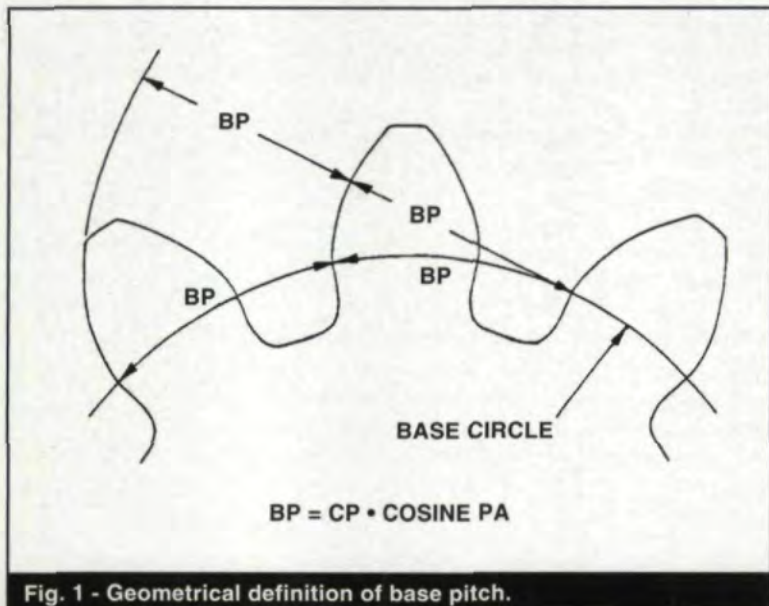

Fig. 1 - Geometrical definition of base pitch.
There is one dimension common to both members of a pair of properly mating spur gears - the base pitch (BP). This base pitch is equal to the circular pitch of the gear on the base circle (see Fig. 1). For a helical gear, the base pitch can be described in either the transverse or normal plane, and is called the transverse base pitch (TBP) or normal base pitch (NBP), respectively. For parallel axis helical gears, both the TBP and NBP must be the same on both mating gears. For skew axis helical gears, only the NBP must be common.